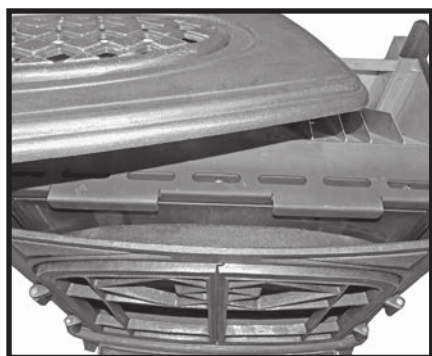

Figure 36: Trenton top cover.
1. Remove the top cover as shown in Figure 36. Make sure that the latticed oval panel in the center of the top-cover does not slip off as it is not fastened to the larger cover.